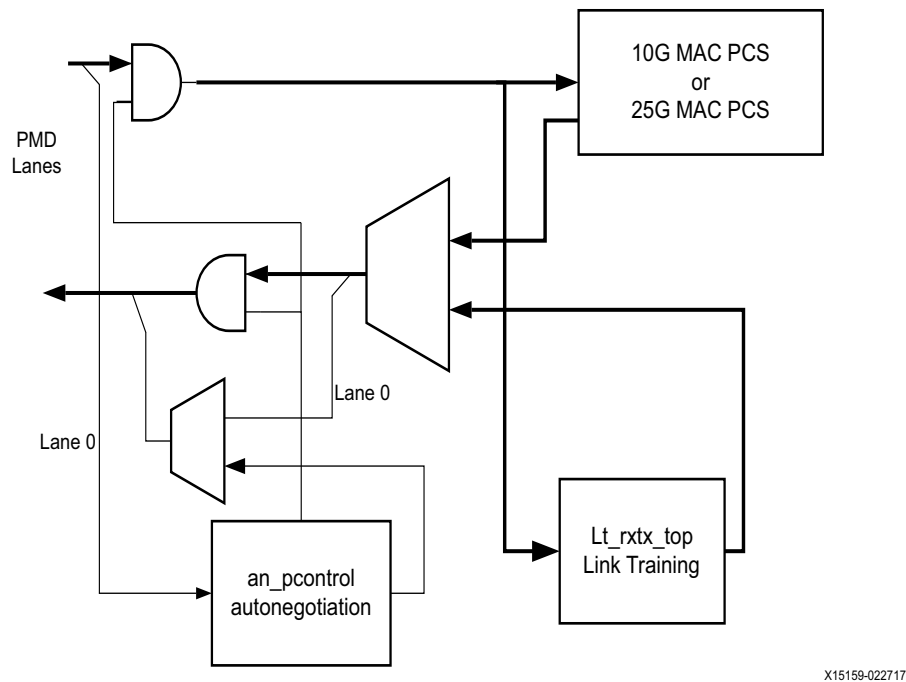

Figure 3-15: Core with Auto-Negotiation and Link Training
A block diagram of the 10G/25G Ethernet core with Auto-Negotiation (AN) and Link Training (LT) is shown in Figure 3-15.
When auto-negotiation and Link Training are complete, the datapath is switched to mission mode (the PCS), as shown in Figure 3-15.